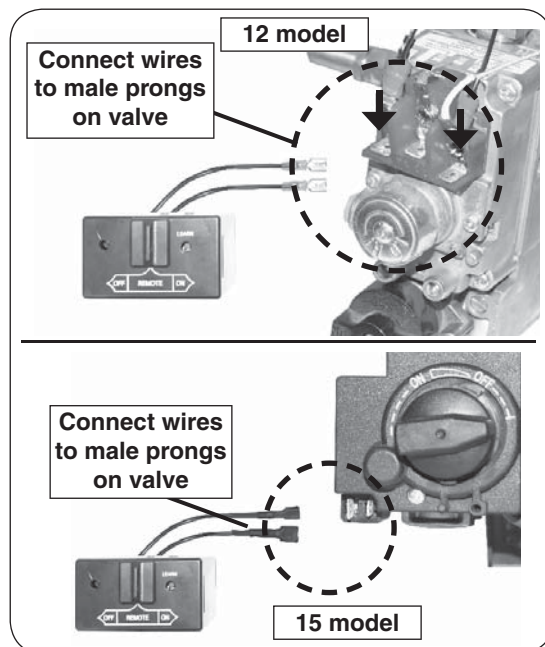

Fig. 18-3 Connect remote receiver to valve
2. Locate the wires coming off of the remote receiver, and connect them to the two male prongs found on the valve (see Fig. 18-3).